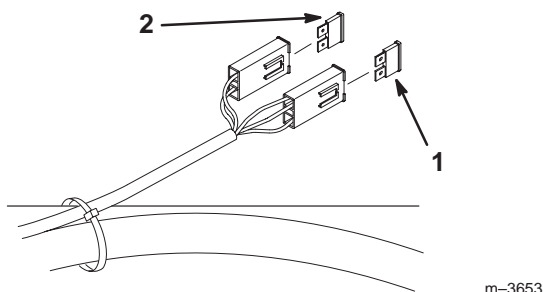

Figure 46
1. Raise the seat to gain access to fuse holder (Fig. 46).
2. To replace fuses pull out on the fuse to remove it (Fig. 46).